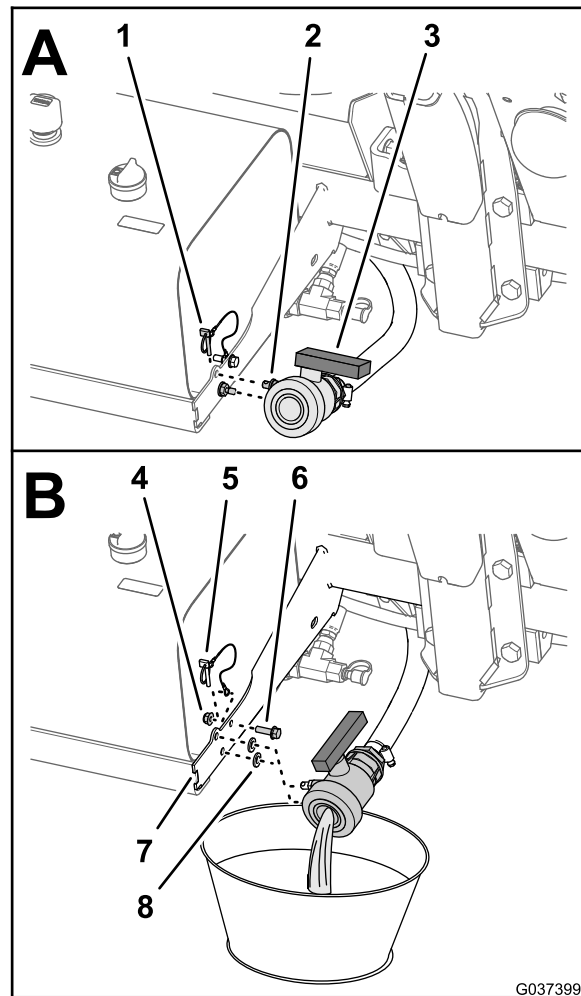

Figure 2
3. Drain the water from the sprayer tank (Figure 2); refer to Cleaning the Sprayer in the *Operator's Manual* for the machine.
4. Remove the flange-head bolt (5/16 x 1 inch) and flange locknut (5/16 inch) that secure the cable of the lynch pin to the hydraulic-tank support (Figure 2).